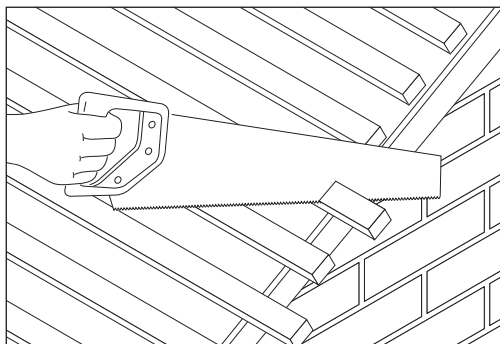

Fig 1 Saw battens flush
- 2 Where possible, set out tiling so that cloak verge tile fits flush with brickwork or bargeboard (Fig 1).